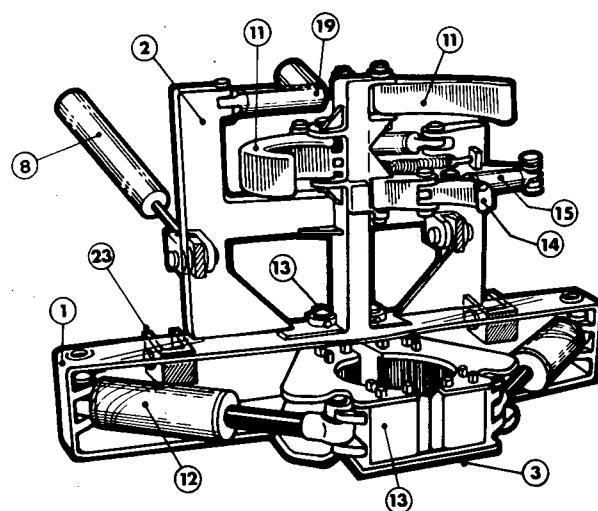

FIG. 3—PIVOTED DOUBLE BLADES
4.1.3 Pivoted Double Blades—Felling is by two shear blades that travel in arcs of planar motion about one or more axes perpendicular to the plane of cutting. The blades work toward each other (Fig. 3).